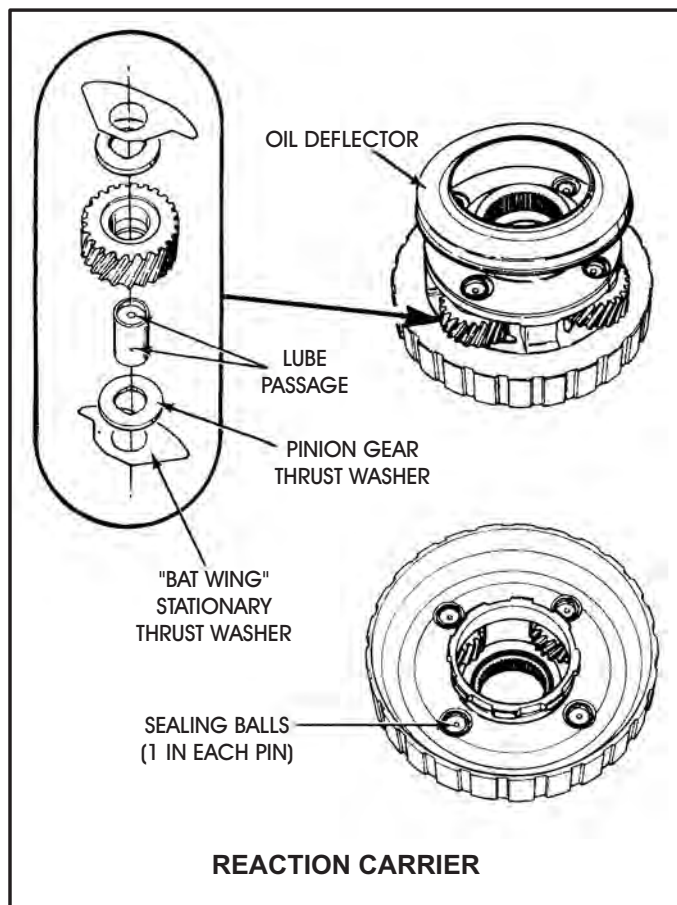

Figure 13
CHANGE: Beginning at the start of production for 1985 models, all THM 700-R4 transmissions were built with a new design Reaction Carrier that has added "Bat Wing" thrust washers on each side of the pinion gears, as shown in Figure 13. Some models also have an added oil deflector pressed onto the carrier and modified pinion pins, as shown in Figure 13.
- (1) REACTION CARRIER - Were built with stationary "Bat Wing" thrust washers in place of the previous bronze thrust washers, as shown in Figure 13. The reaction carrier was also modified to allow extra lube oil into the pinion needle bearings, by adding an oil deflector which is pressed onto the carrier, as shown in Figure 13. Oil trapped by the added deflector, is forced through a new lube passage in each of the pinion pins. A steel ball was also installed on the back side of each pinion pin to seal off any possible loss of lube, as shown in Figure 13.